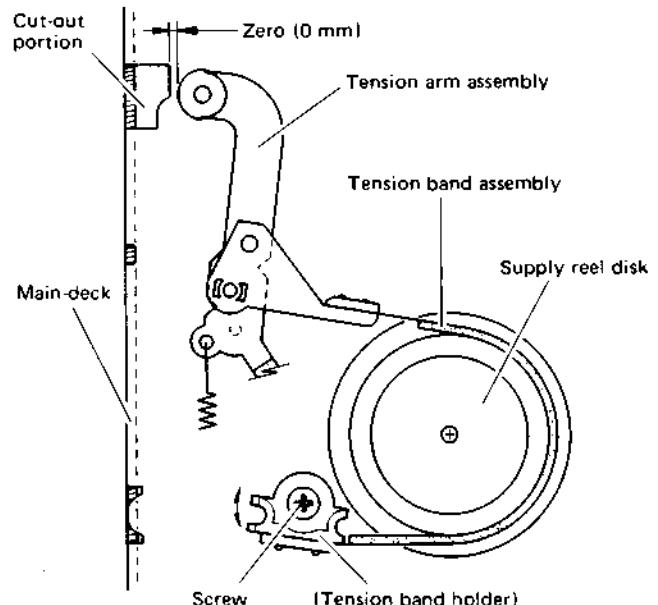

Fig. 1-4-1 Tension pole position
- Loosen screw a little bit, then adjust the tension band holder so that the distance, shown in Fig. 1-4-1, becomes zero (0 mm).